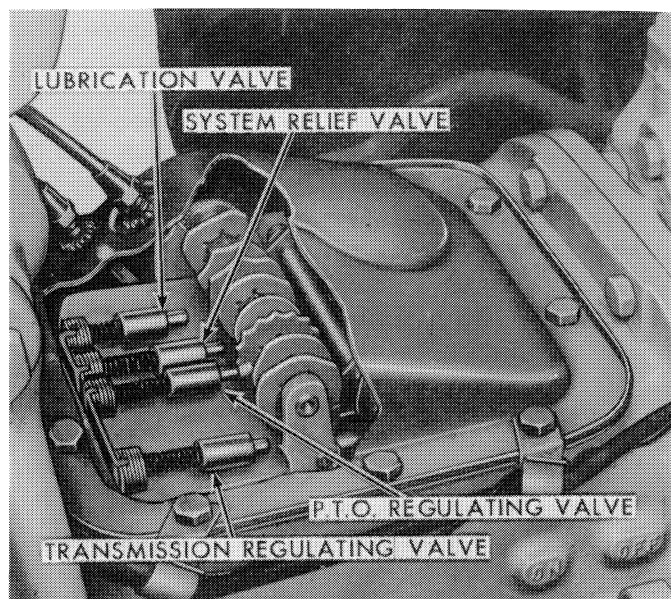
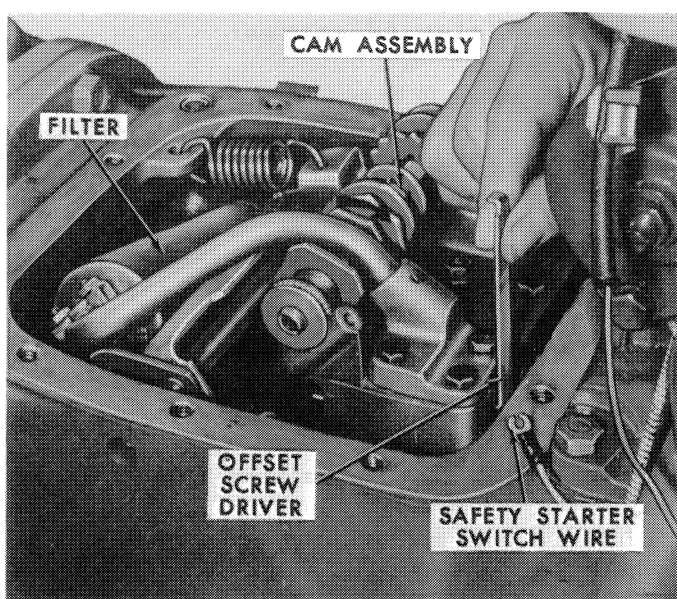

Figure 27
Figure 28
7. With the valve in park (P) position, start the engine by grounding the safety starter switch wire. Operate the engine at 800 rpm.
8. Referring to Figure 27, locate the valve plunger to be adjusted. Use an offset screwdriver or the retainer removed in step 5, as shown in Figure 28, to turn the adjusting screws. The procedure is detailed under "Checking Valve Pressures." The following chart summarizes this procedure for ready reference.
NOTE: *When adjusting the regulating valves, the neutral position is obtained by rotating the valve camshaft three positions from park (P) in the direction shown in Figure 28.*